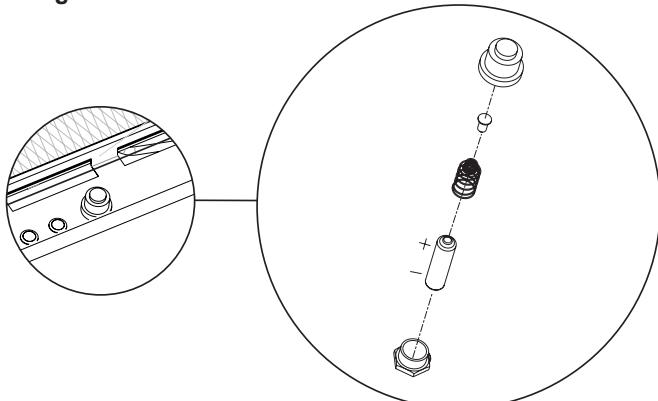

Figure 22
- Unscrew the ignitor button and install the AA battery provided in the instruction envelope prior to closing the control door. **See Figure 22.**